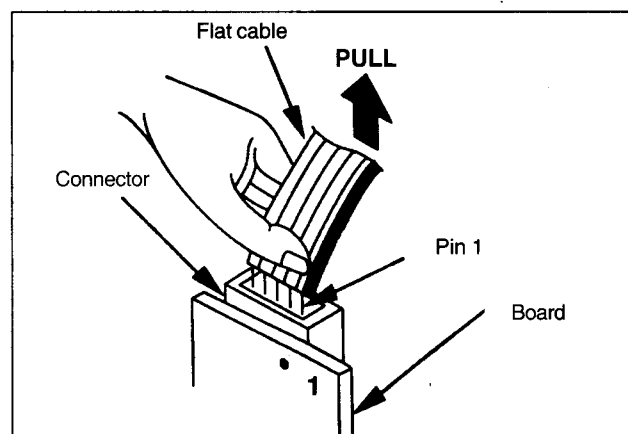

Fig. 1-3
Original cable marked "O" for audio / CTL head (Fig. 1-3).
Pull out the flat cable, holding it securely to avoid damaging individual wires (see fig. 1-3).
1. Adjust the position of the flat cable so that the lines on the flat cable align with the pins of the trap connector (see fig. 1-3).